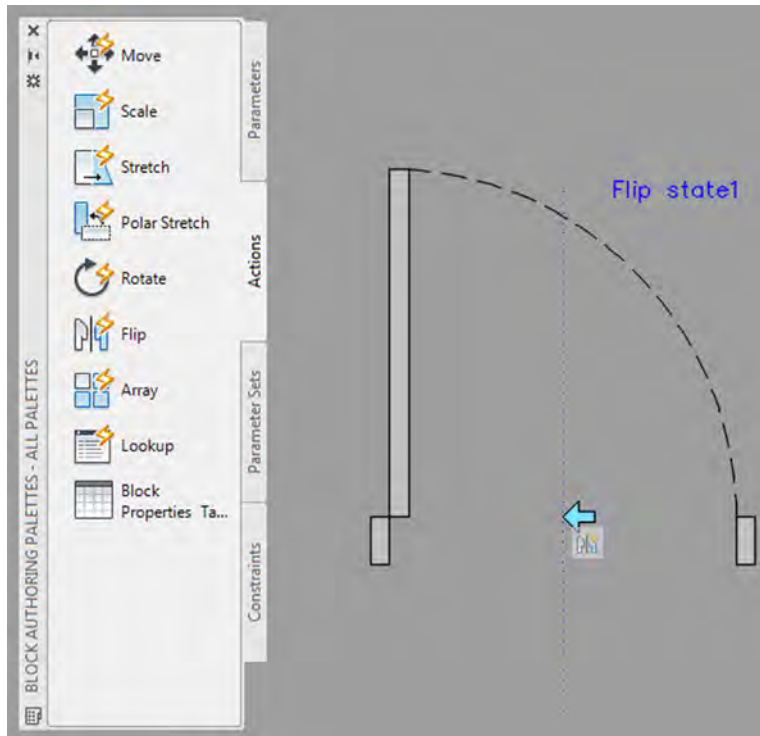

FIGURE 7.17
- Step 3.** Add the flip action by selecting the icon, then the parameter, then all the objects. Figure 7.17 shows what you should have on your screen. You can go ahead and erase the horizontal guide line at this point.